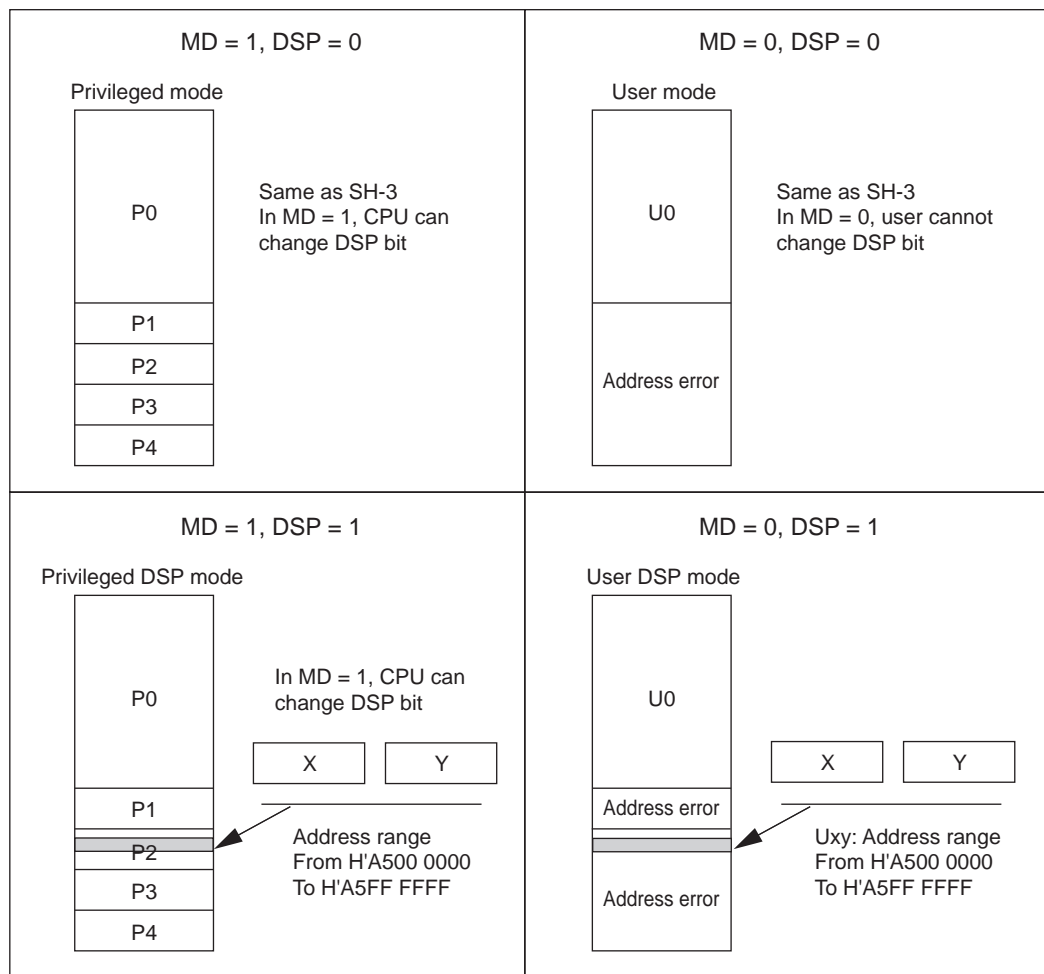

Figure 6.1 X/Y Memory Logical Address Mapping
The X/Y memory can be located in either map-enabled area or fixed-mapped area, depending on the mode bit (MD) and DSP bit (DSP) setting in the status register (SR). Figure 6.1 shows X/Y memory logical mapping.
The X/Y memory resides on the second 16 MB of physical address space area 1, from H'A500 0000 to H'A5FF FFFF. These 16-MB address spaces are shadowed and maps to the same 128-kbyte X/Y ROM/RAM. Figures 6.1 and 6.2 show X/Y memory physical mapping.